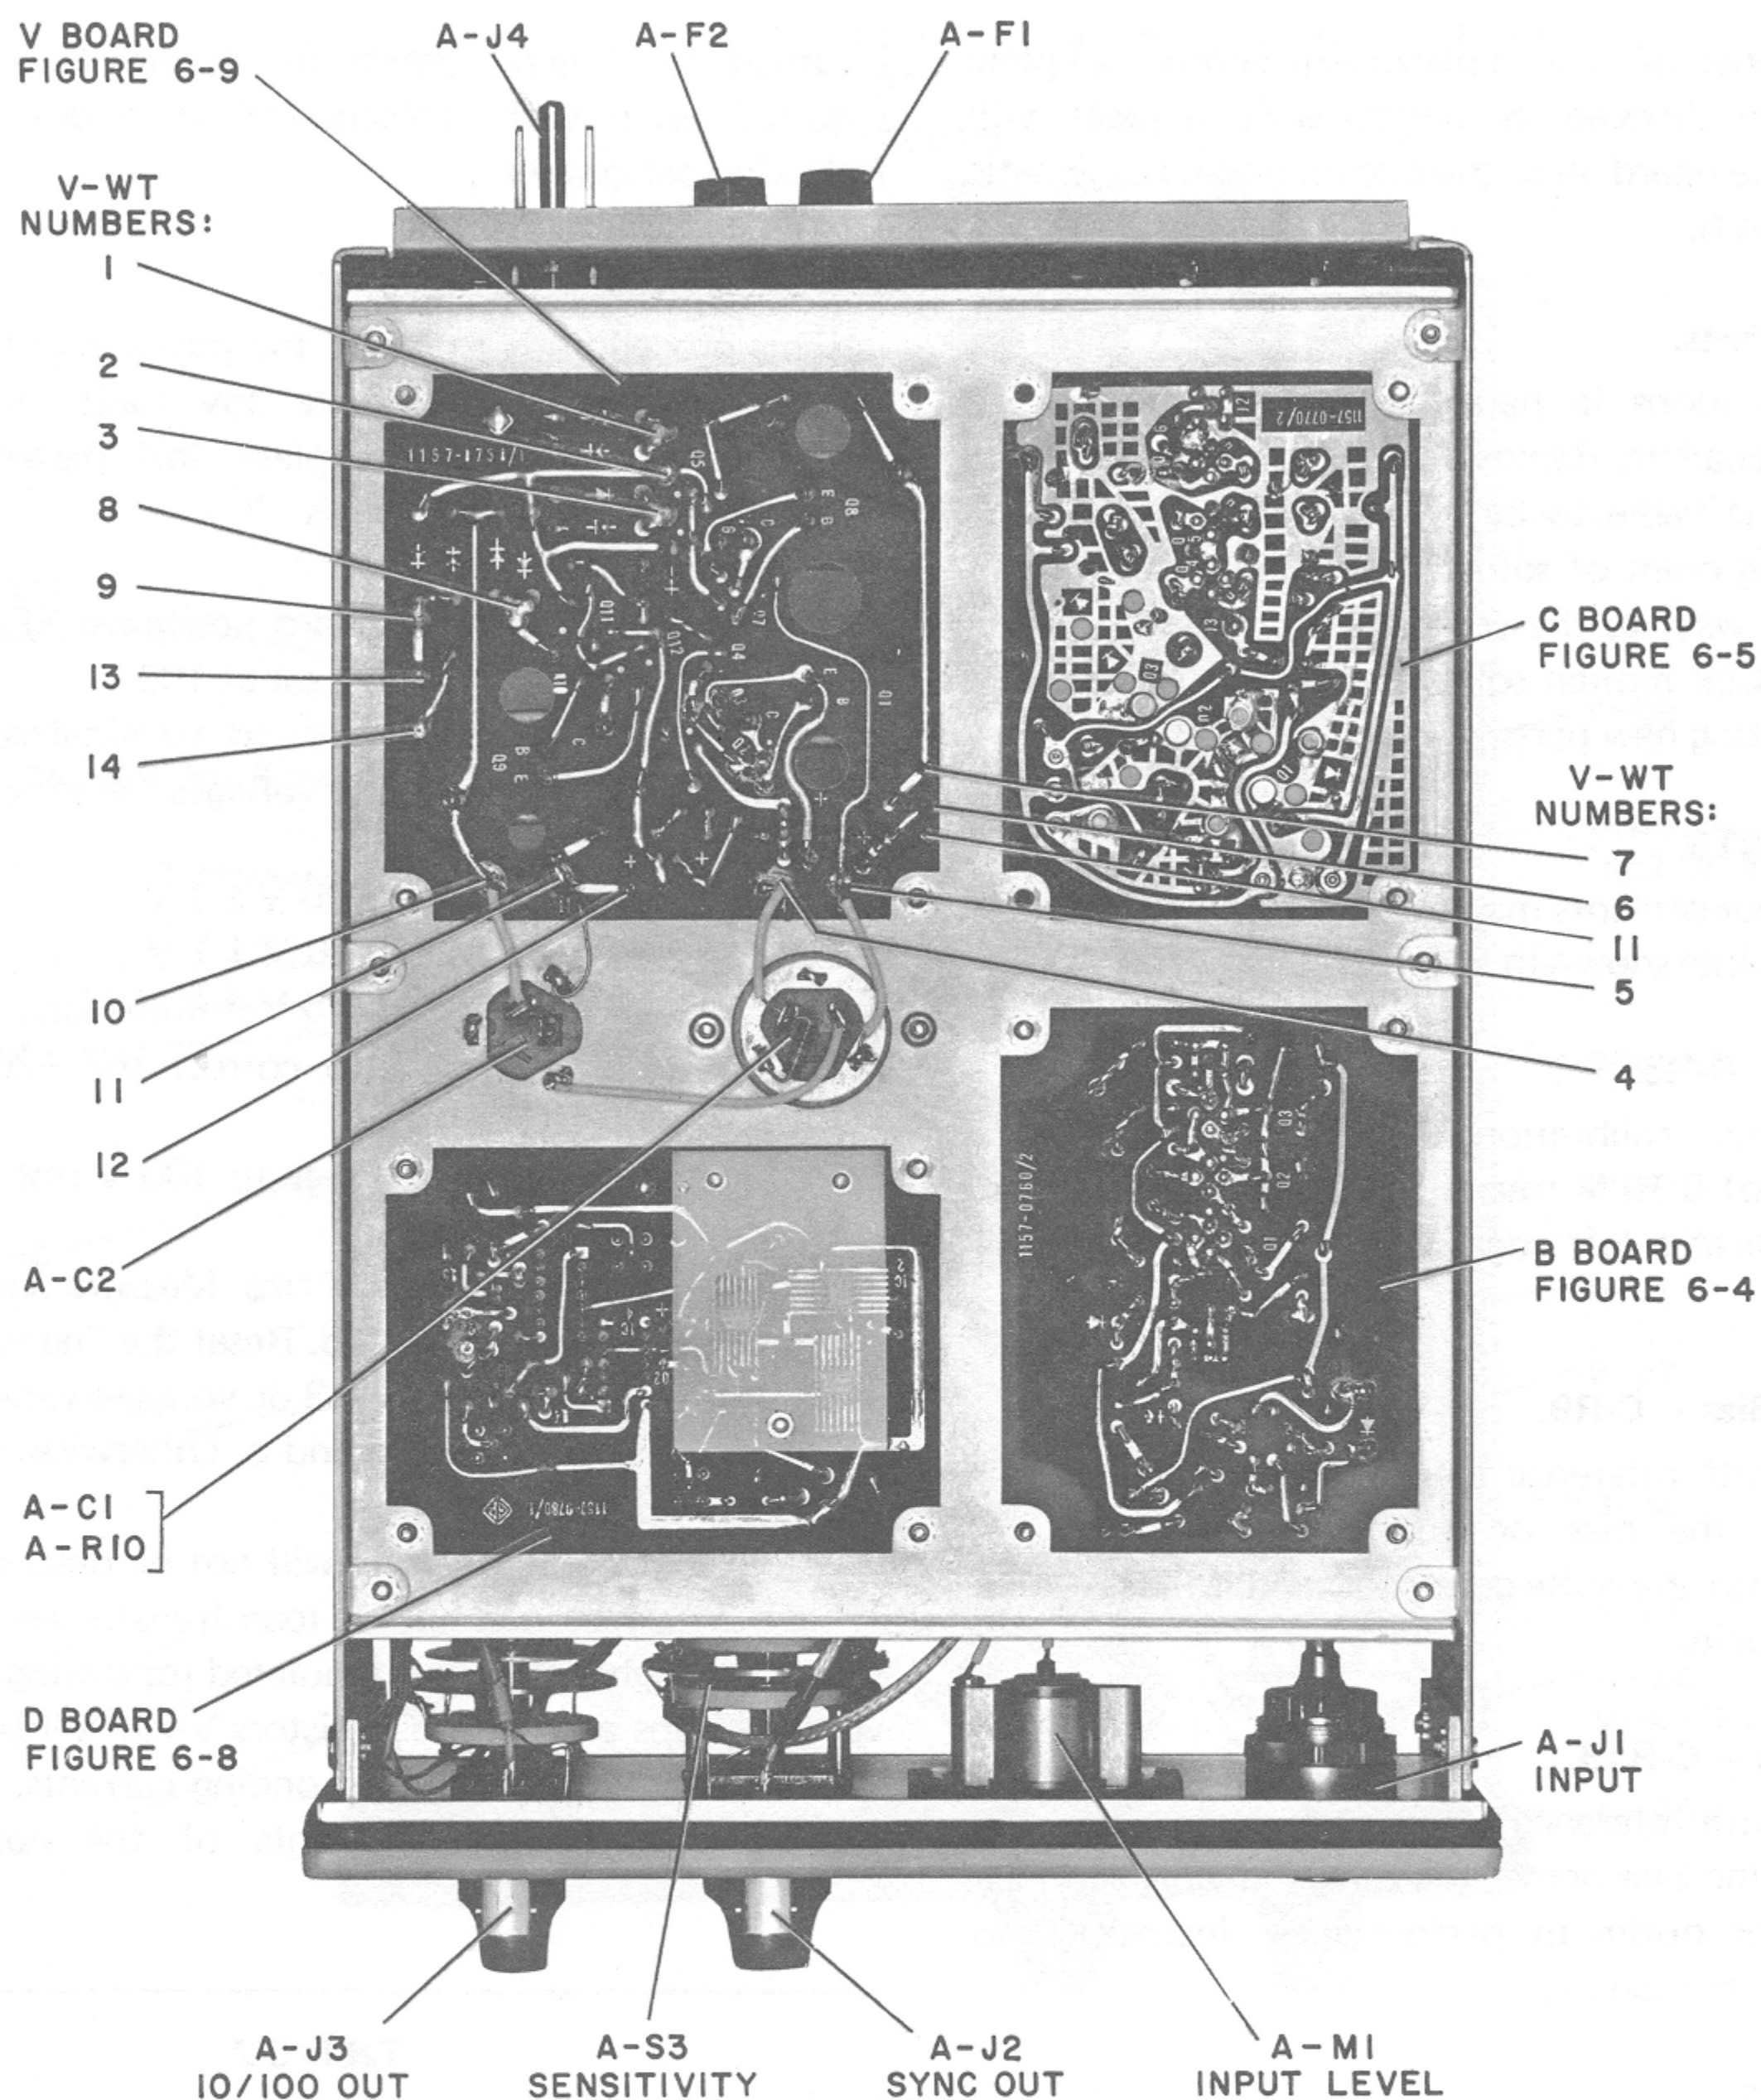

Figure 5-3. Interior bottom view.
c. With the voltmeter ground terminal connected to WT2, verify the following dc voltages; refer to Figures 5-3 and 6-10: